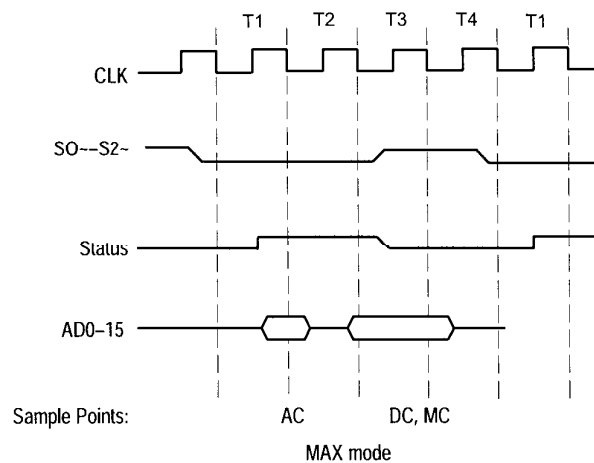

Figure 3-2: 8086/8088 Clcking in MAX Mode
- In MAX mode, the status lines become valid after the rising edge of CLK, and become invalid several cycles later after the falling edge of CLK to indicate the end of a bus cycle (see Figure 3-2). The PAL uses the S0~S2~ lines to synthesize an output signal, STATUS, which allows the CSM to decode the cycles correctly. STATUS is only valid in MAX mode, and is sensed by the MIN/MAX~ line from the 8086/8088.